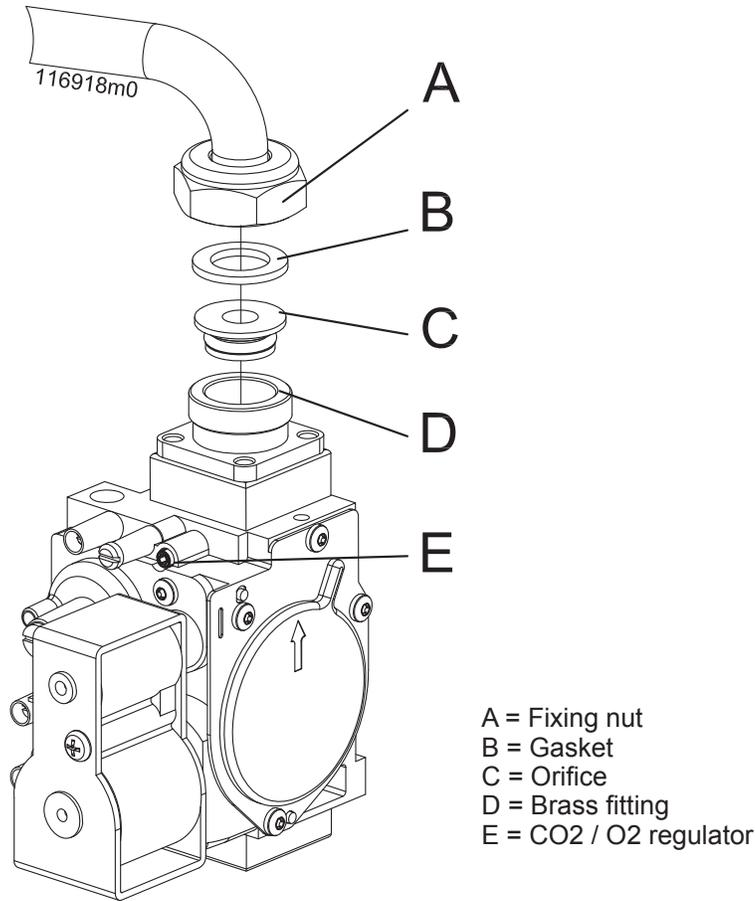

Figure 11-2 Gas valve
- 11 - Replace the orifice item "C" of Figure 11-2 for the correct one for the type of gas used. Verify that the
- 12 - Turn completely counter clockwise the screw E of Figure 11-2;